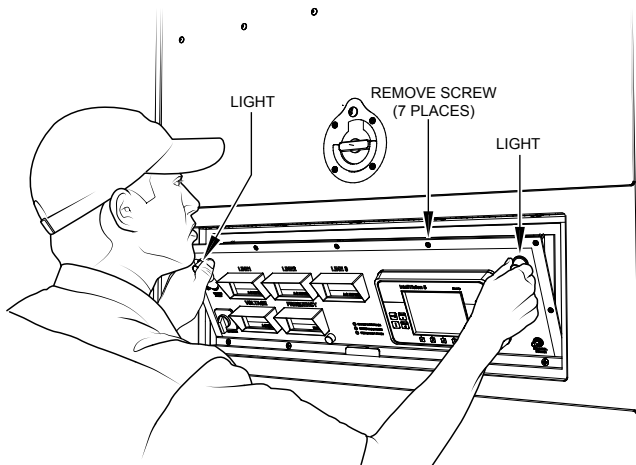

Figure 4. Positioning Control Panel
1. Remove the 7 retaining screws (Figure 4) that secure the control panel to frame.
2. Gently grasp the lights (Figure 4) on each side of the control panel, pull down slightly, and let the control panel unfold.